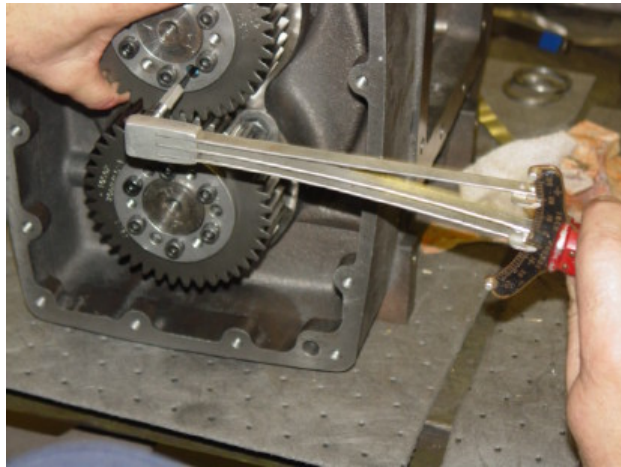

FIGURE 7-7 – TIGHTEN SETSCREWS
55. Apply loctite 243 to 6 set screws (57) {M6 x 12mm}. Install 3 of these screws into each of the 2 gear locking assemblies. These set screws go between the existing screws in the locking assembly through the unthreaded holes in the outer ring into the threaded holes in the inner ring. The purpose of these set screws is to keep pressure on the spacer that is between the gear and bearing inner race. Tighten the screws to 25 in-lb of torque. See FIGURE 7-7.